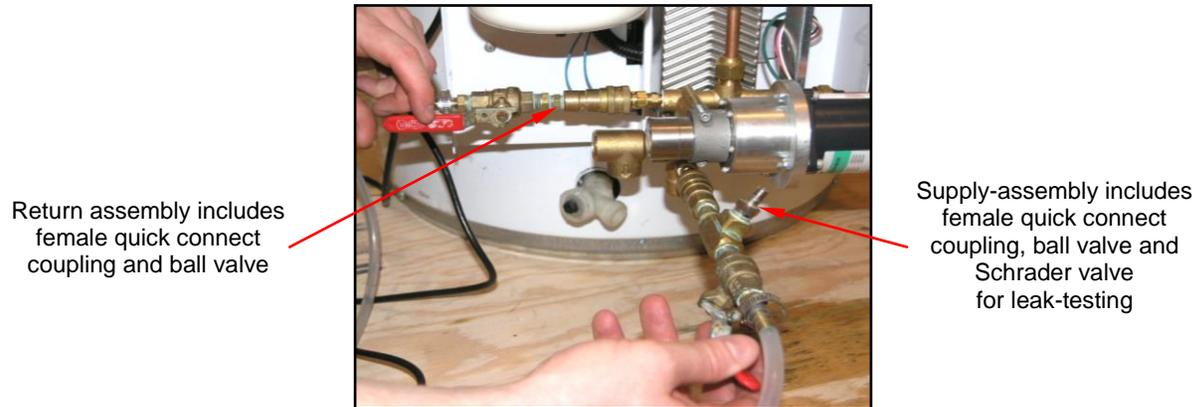

Fig.5.1.1 – Charge Kit supply and return assemblies.
1. Connect fluid line out from charge pump to forward-facing male quick connect, located below Energy Station pump (Fig.5.1.1). Supply connection assembly includes female hydraulic quick connect coupling, ball valve and Schrader air valve.
2. Connect return line (that will return fluid from appliance to reservoir) to left pointing male quick connect on lower manifold (Fig.5.1.1). Return connection assembly includes female hydraulic quick connect coupling and ball valve.